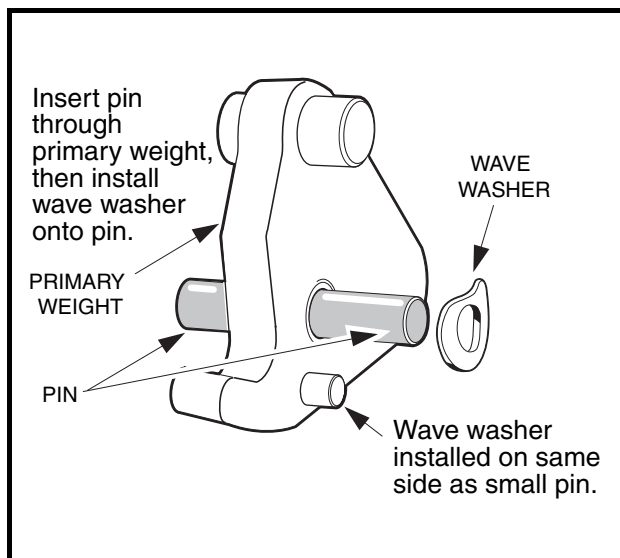
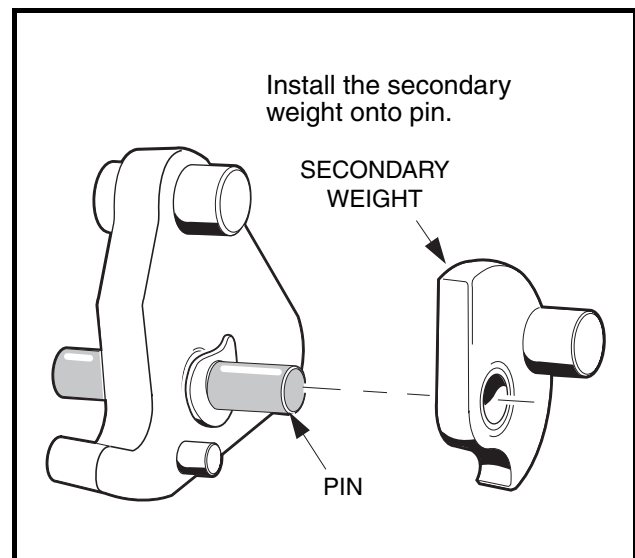

Figure 17-12 Install Pin and Washer
Figure 17-13 Install Secondary Weight
- 5.3. Remove the plastic washers, weights and wave washer from the pins. Before removing, note the orientations of the wave washer and of the primary and secondary weights to one another (**Figure 17-12, Page 17-10 and Figure 17-13, Page 17-10**). Retain all parts.
4. Inspect the thrust washer (11) for wear. If it is worn more than 0.030-inch (0.76-mm), turn it over or replace it with a new one.
5. Inspect the primary weights and the hub casting for wear. If the primary weights show signs they are touching the casting, the tips of the weights have worn beyond specification and they must be replaced (**Figure 17-12, Page 17-10**).
7. Install the primary weights on the mounting pins (Figure 17-12, Page 17-10).
8. Install a wave washer on each mounting pin. Make sure that the concave side of the washer faces the side of the primary weight with the small guide pin protruding from it (**Figure 17-12, Page 17-10**).
9. Install the secondary weights onto the mounting pins with the weight pins on the secondary weights pointing away from the primary weights. The wave washers should be between the primary and secondary weights (**Figure 17-13, Page 17-10**).